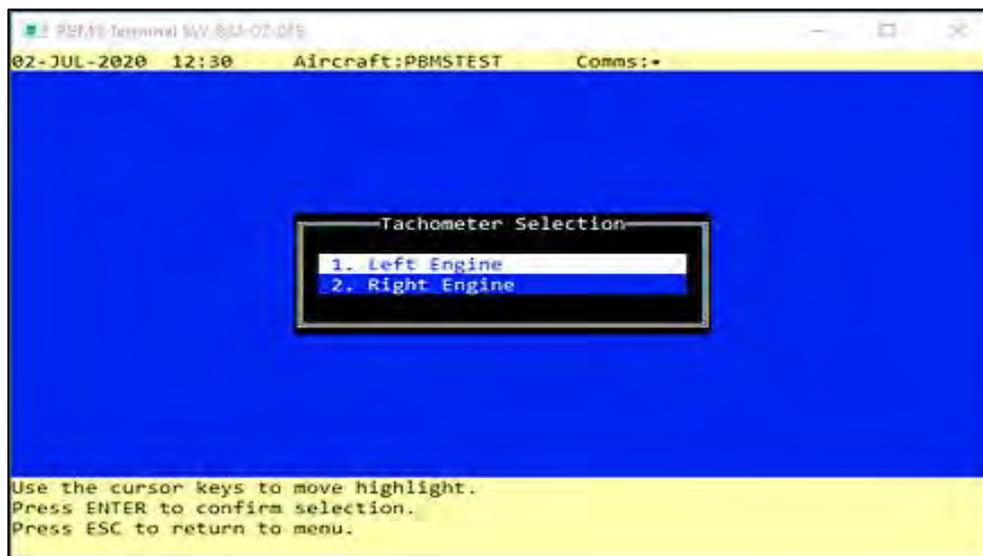

Figure 4-3 Engine Selection
- (1) Select Calculate New Balance from the Main Menu and press <Enter>. The PBMS Terminal will ask you to select which Engine requires the new Balance (**Ref Fig 4-3**) Select the required Engine using the cursor keys and press <Enter>.